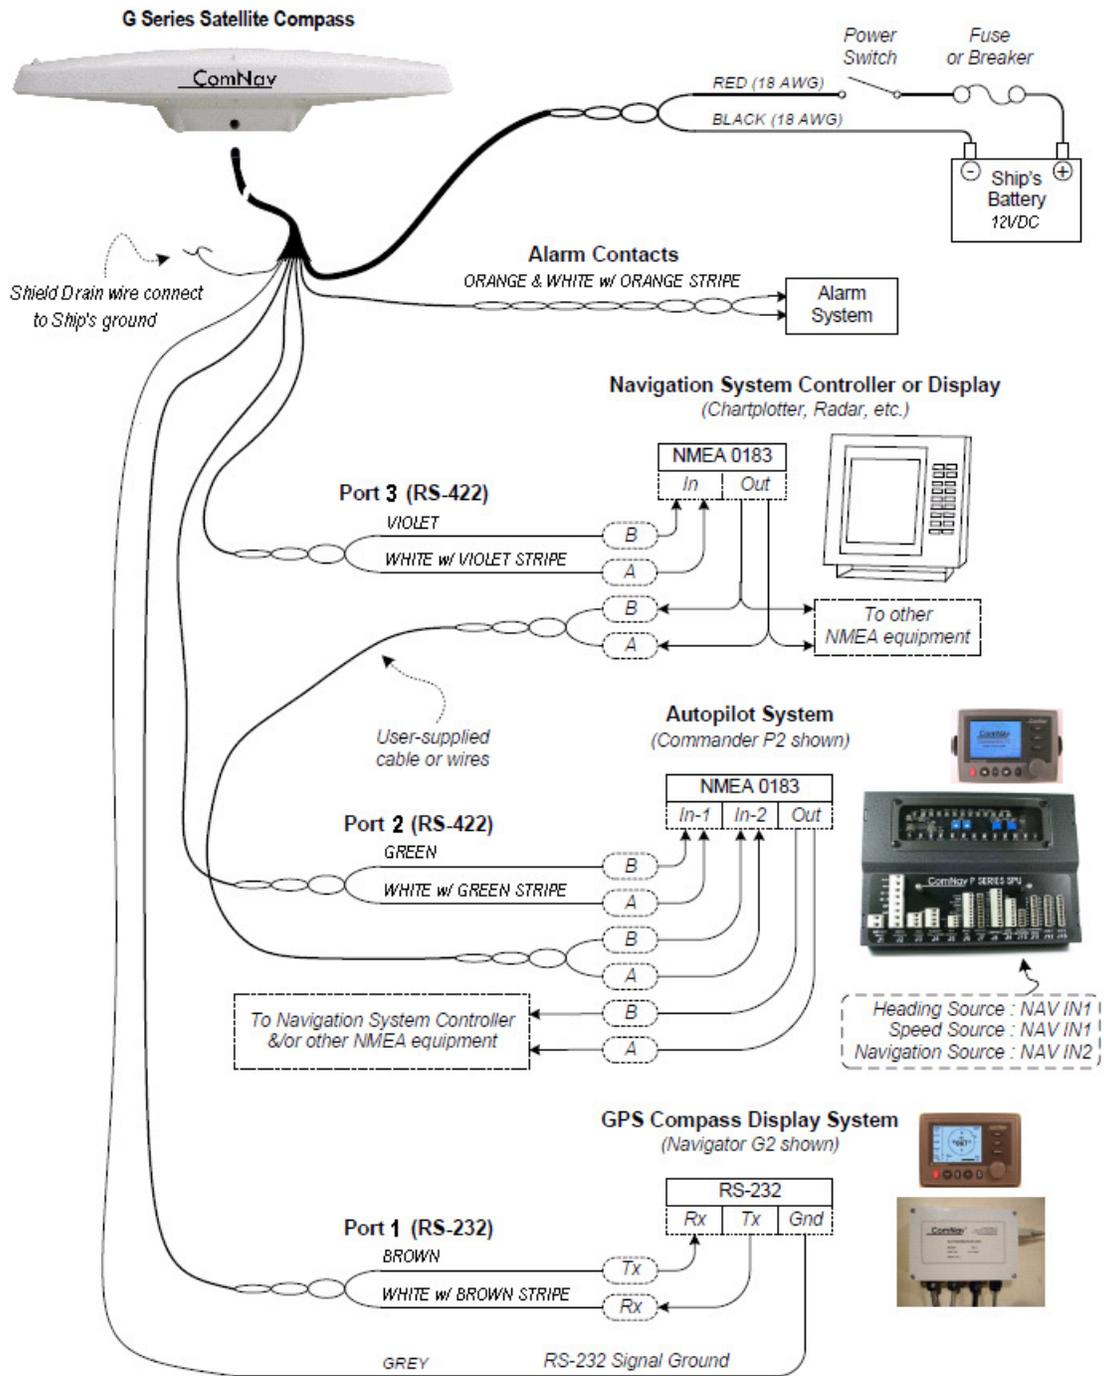
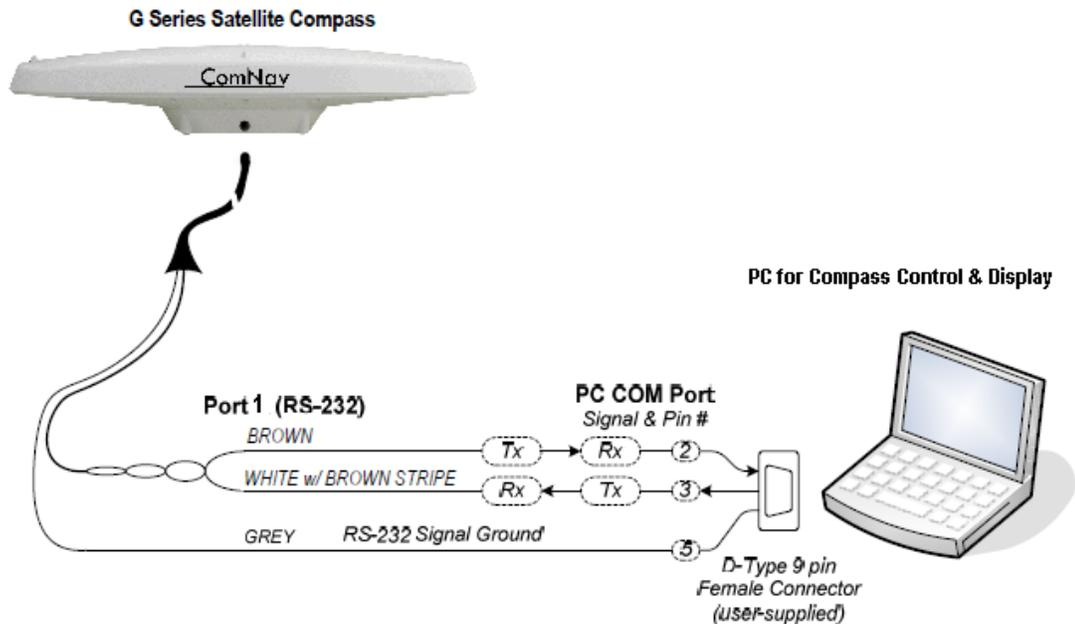
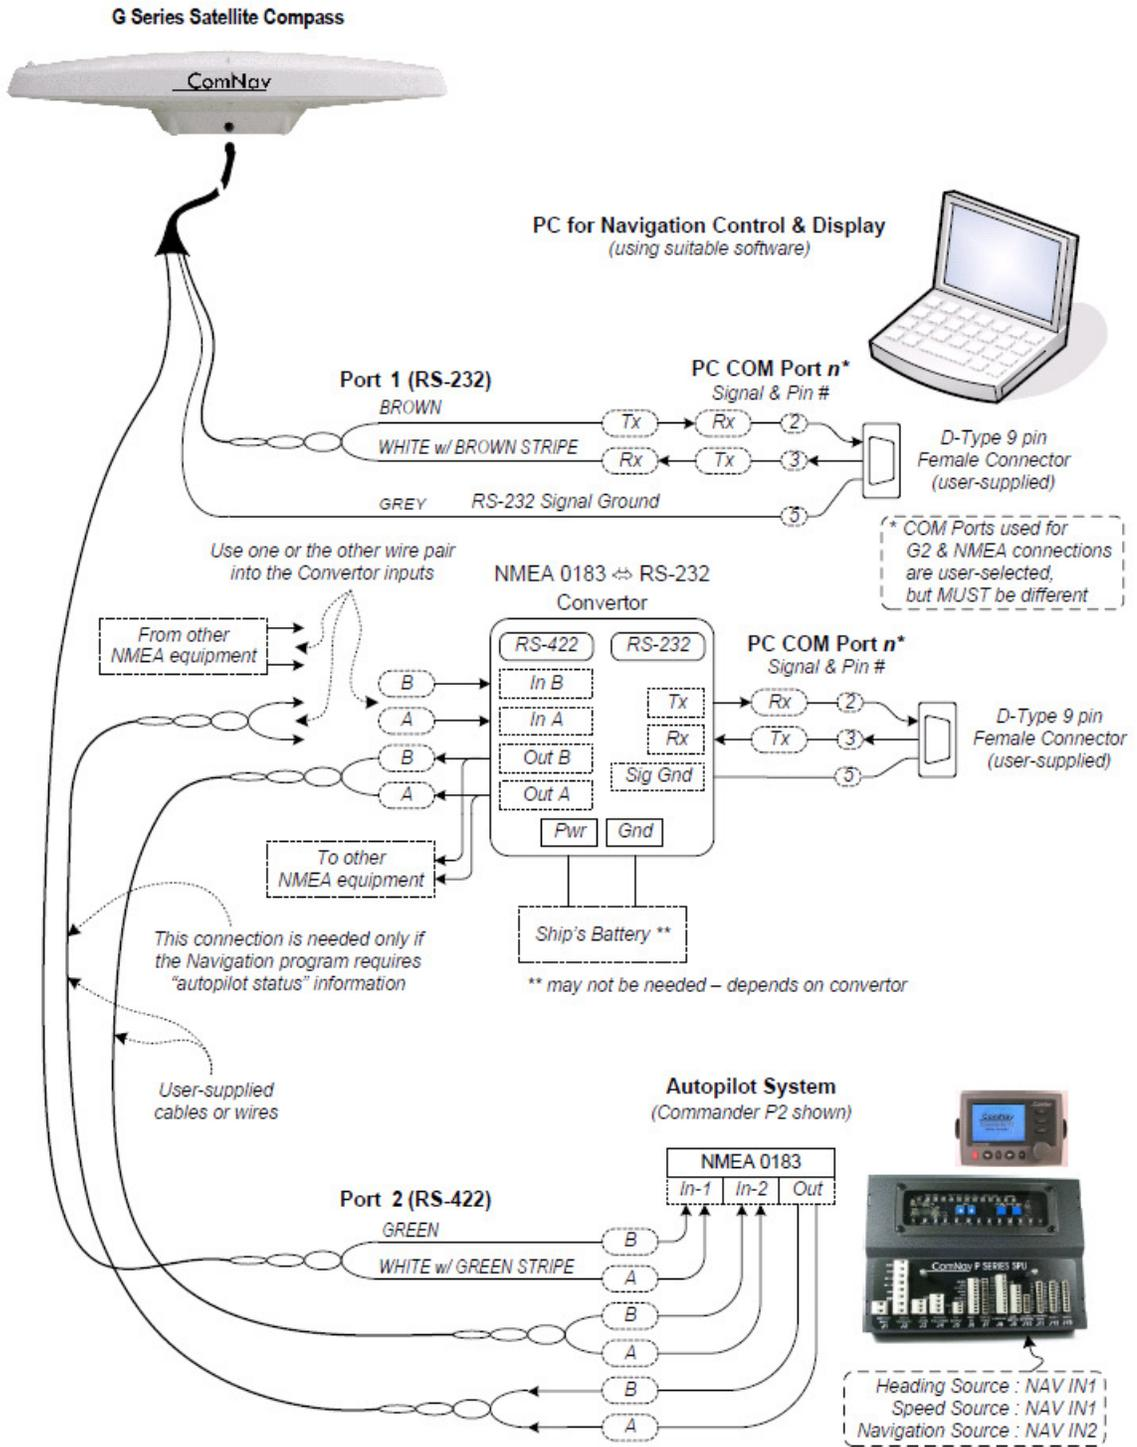

Figure 14 - Typical Wiring Diagram of a G2 System with Autopilot and Compass Display
Figure 16 – Typical wiring with a PC for G2 Control & Display
Figure 17 – Typical wiring with a PC based Navigation Program
There are a number of ways to make the data connections required between the G2 and other equipment on the vessel. See Figure 14, Figure 16 and Figure 17 for common examples:
See Figure 14.
Figure 16 shows the typical connections when using a PC, instead of a Navigator G2 Display, to configure the G2, and/or monitor its status.
Figure 17 shows the typical connections when using a PC, instead of a Chartplotter or some other type of NMEA Navigation equipment, to perform “Navigation display &/or control” functions – viewing the vessel’s position on a chart, setting waypoints and so on. This wiring scheme uses the G2’s Port 1 RS-232 output (and input, if the PC is also going to be used to control the G2), and the Port 2 RS-422 output.
⇒ Since very few PCs have built-in RS-422 ports, an RS-232 ⇔ RS-422 Converter will usually also be needed (as shown in Figure 17).
- *Wire the G2's Port A RS-232 Tx signal to the PC COM port's Rx signal, and wire the RS-232 Signal Ground, both as shown in Figure 17.*